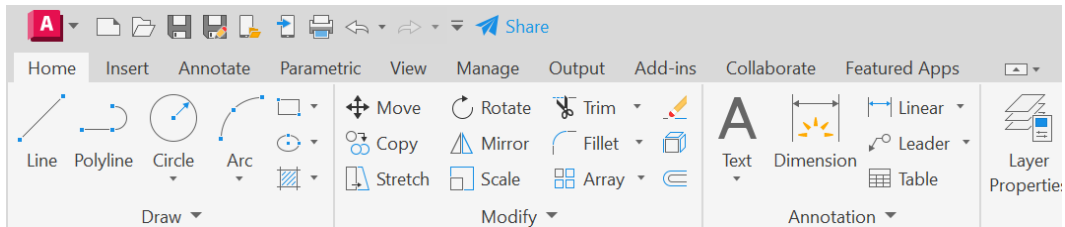

Figure 1.4: The default ribbon display
- The default ribbon (no click required):** This ribbon setting is set by default when you first start using AutoCAD. As you can see in *Figure 1.4*, it provides a view of all the ribbon tabs, panels, and icons.